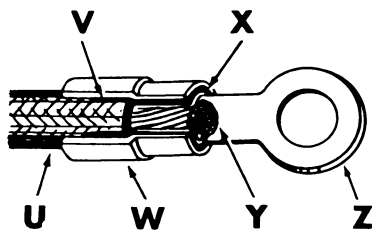

Figure 6B.
Figure 6B is a cutaway drawing of a preinsulated terminal lug, a type extensively used in missile assemblies instead of soldered connections. In order to aid you in your familiarization with this commonly employed part, items 16 through 19 will emphasize some of the problems encountered in attaching one of these lugs to a cable end.
16. When you describe the terminal lug in figure 6B as either the straight, flag, or right-angles type, you are referring to the design of part
17. Which of the following parts in figure 6B is a feature found only in terminal lugs of the preinsulated type?
18. When the terminal lug and the cable end shown in figure 6B are properly inserted in tool MS 25037 for crimping, the tool stop is flush against the edge of part
19. Assume that part W of figure 6B is colored blue. In order to have a perfect fit in the terminal lug barrel, part U should be stripped back